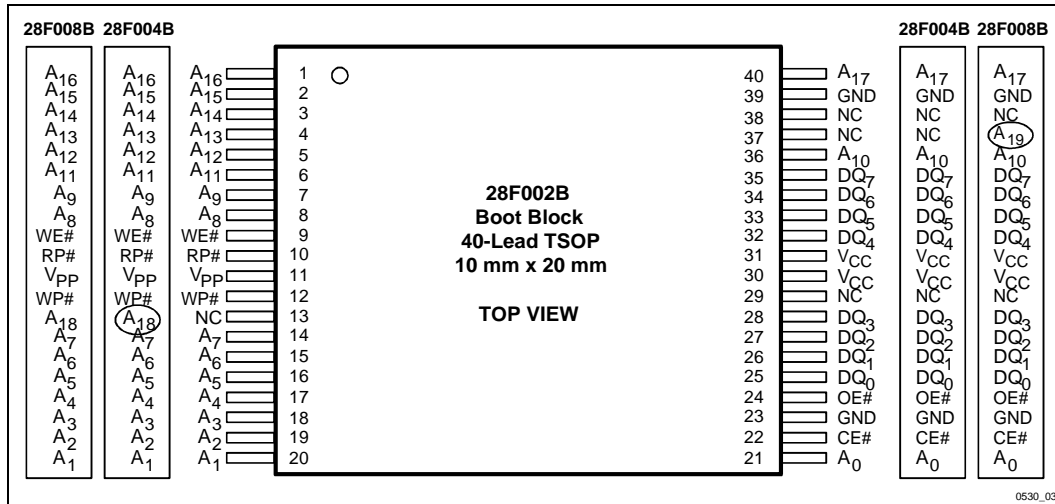
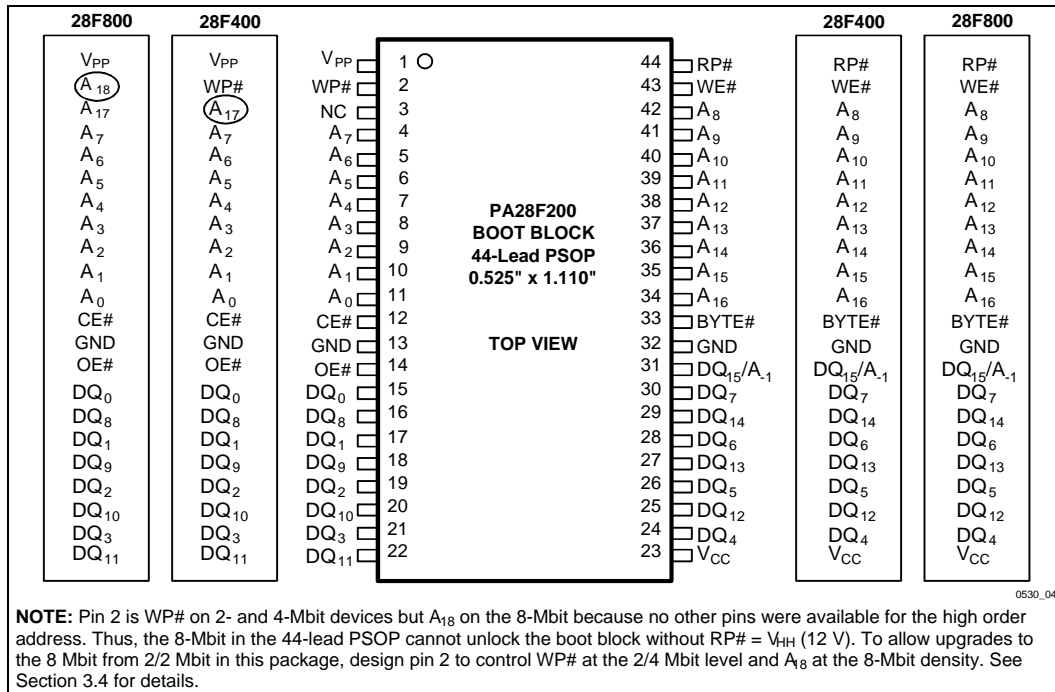
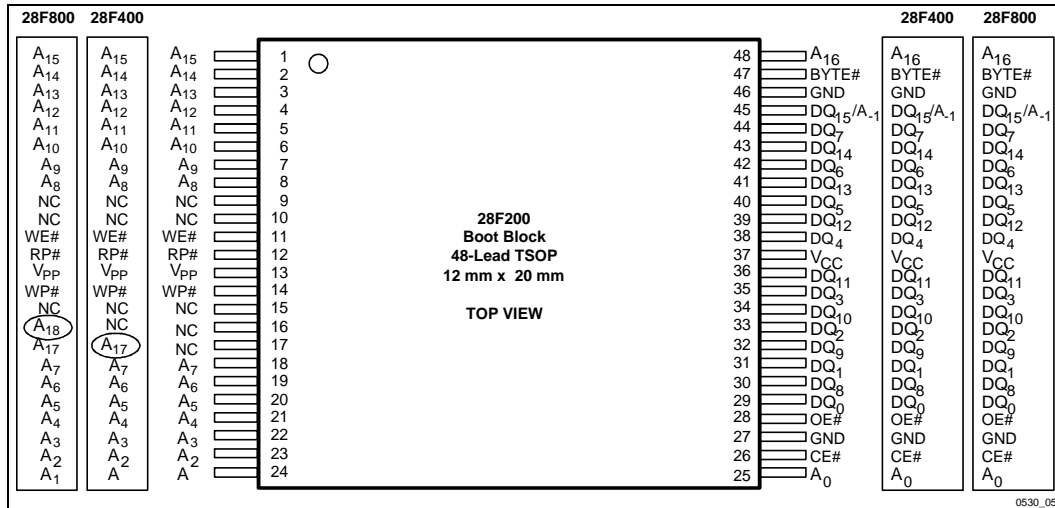
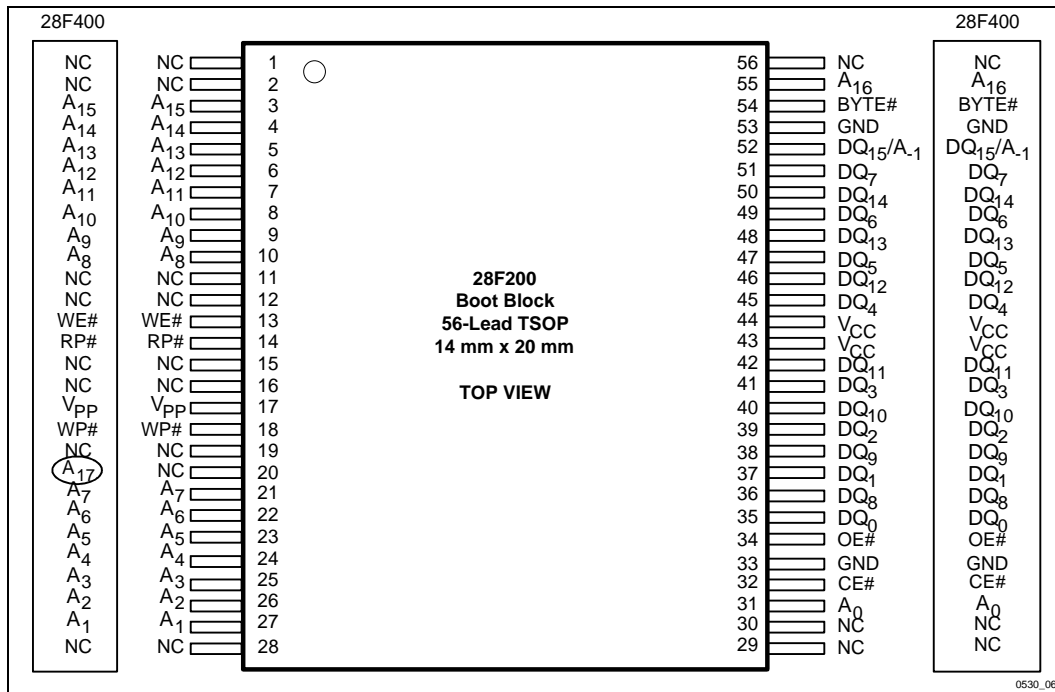

Figure 3. The 40-Lead TSOP Offers the Smallest Form Factor for Space-Constrained Applications
Figure 4. The 44-Lead PSOP Offers a Convenient Upgrade from JEDEC ROM Standards
Figure 5. The 48-Lead TSOP Offers the Smallest Form Factor for x16 Operation
Figure 6. The 56-Lead TSOP Offers Compatibility between 2 and 4 Mbits
-002	<p>Status changed from Product Preview to Preliminary 28F200CV/CE/BE references and information added throughout. 2.7 V CE/BE specs added throughout.</p> <p>The following sections have been changed or rewritten: 1.1, 3.0, 3.2.1, 3.2.2, 3.3.1, 3.3.1.1, 3.3.2, 3.3.2.1, 3.3.3, 3.3.4, 3.6.2.</p> <p>Note 2 added to Figure 3 to clarify 28F008B pinout vs. 28F008SA.</p> <p>Sentence about program and erase WSM timeout deleted from Section 3.3.3, 3.3.4.</p> <p>Erroneous arrows leading out of error states deleted from flowcharts in Figs. 9, 10.</p> <p>Sections 5.1, 6.1 changed to "Applying V_{CC} Voltages." These sections completely changed to clarify V_{CC} ramp requirements.</p> <p>I_{PPD} 3.3 V Commercial spec changed from 10 to 5 μA.</p> <p>Capacitance tables added after commercial and extended DC Characteristics tables.</p> <p>Test and slew rate notes added to Figs. 12, 13, 19, 20, 21.</p> <p>Test configuration drawings (Fig. 14, 22) consolidated into one, with component values in table. (Component values also rounded off).</p> <p>t_{ELFL}, t_{ELFH}, t_{AVFL} changed from 7 to 5 ns for 3.3 V BV-60 commercial and 3.3 V TBV-80 extended, 10 to 5 ns for 3.3 V BV-80 and BV-120 commercial.</p> <p>t_{WHAX} and t_{EHAX} changed from 10 to 0 ns.</p> <p>t_{PHWL} changed from 1000 ns to 800 ns for 3.3 V BV-80, BV-120 commercial.</p> <p>t_{PHEL} changed from 1000 ns to 800 ns for 3.3 V BV-60, BV-80, and BV-120 commercial.</p>
-005	<p>Corrections: Figure 4, corrected pin designation 3 to "NC" from A₁₇ on PA28F200.</p> <p>Corrected typographical errors in Ordering Information.</p> <p>Added New Design Recommendations section to cover page.</p> <p>Updated Erase Suspend/Resume Flowchart</p>
The 28F200 products are available in a ROM/EEPROM-compatible pinout and housed in the 44-lead PSOP (Plastic Small Outline) package, the 48-lead TSOP (Thin Small Outline, 1.2 mm thick) package and the 56-lead TSOP as shown in Figures 4, 5 and 6, respectively. The 28F002 products are available in the 40-lead TSOP package as shown in Figure 3.
Intel's SmartVoltage Boot Block architecture provides upgrade paths in every package pinout to the 4 or 8-Mbit density. The 28F002B 40-lead TSOP pinout for space-constrained designs is shown in Figure 3. The 28F200 44-lead PSOP pinout follows the industry-standard ROM/EPROM pinout, as shown in Figure 4. For designs that require x16 operation but have space concerns, refer to the 48-lead pinout in Figure 5. Furthermore, the 28F200 56-lead TSOP pinout shown in Figure 6 provides compatibility with BX/BL family product packages.
This product family features an asymmetrically-blocked architecture providing system memory integration. Each erase block can be erased independently of the others up to 100,000 times for commercial temperature or up to 10,000 times for extended temperature. The block sizes have been chosen to optimize their functionality for common applications of nonvolatile storage. The combination of block sizes in the boot block architecture allow the integration of several memories into a single chip. For the address locations of the blocks, see the memory maps in Figures 4 and 5.